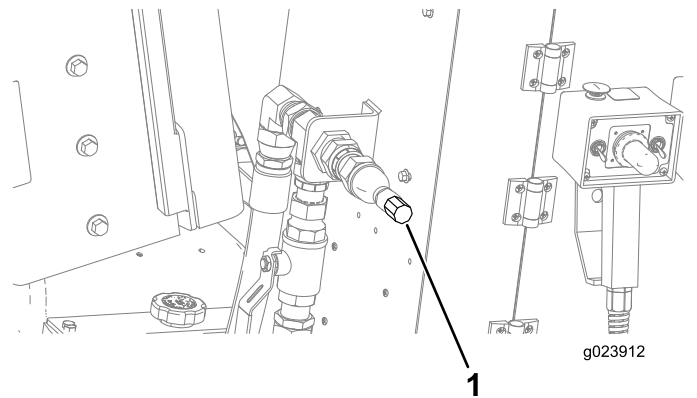

Figure 136
5. Connect the spray-hose attachment to the fitting (Figure 136).